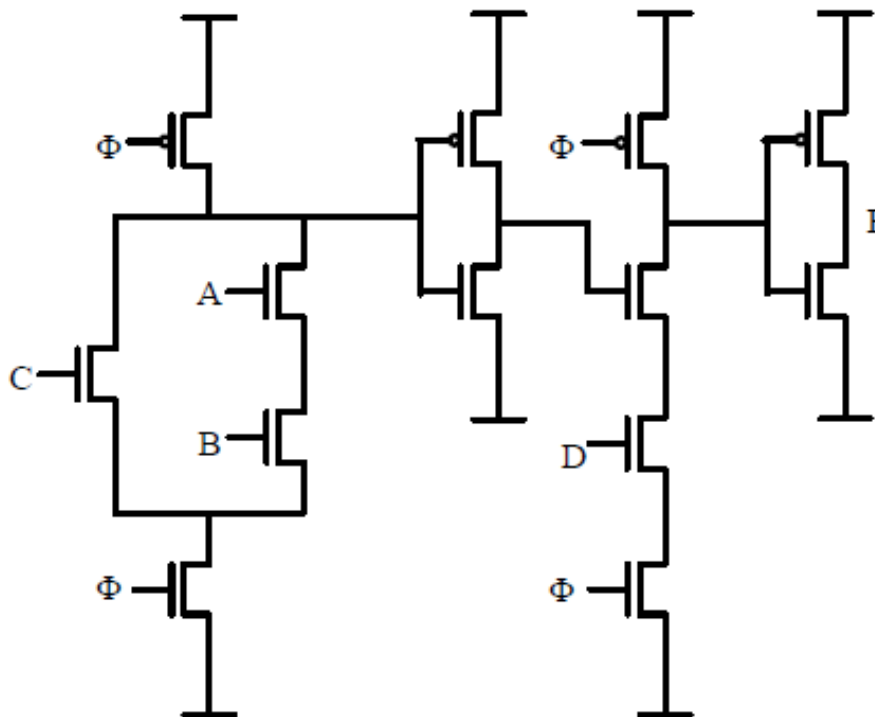

Figure 1
c) Two-stage domino logic in Figure 1.